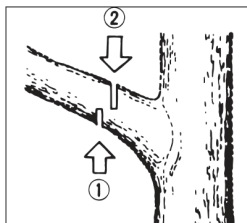

Figure 13
- When pruning a standing tree, begin by making a notch from below, then finish the cut from above (see Figure 13).